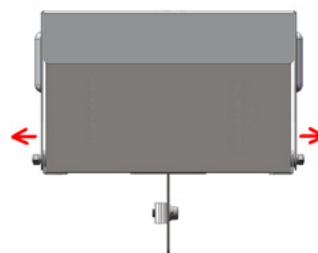

Figure 4
3.3 During installation, there could be interference between the bolt head of the Cover and Bracket. Please pull out the Cover slightly in order to make the bolt head pass through as shown in Figure 4.